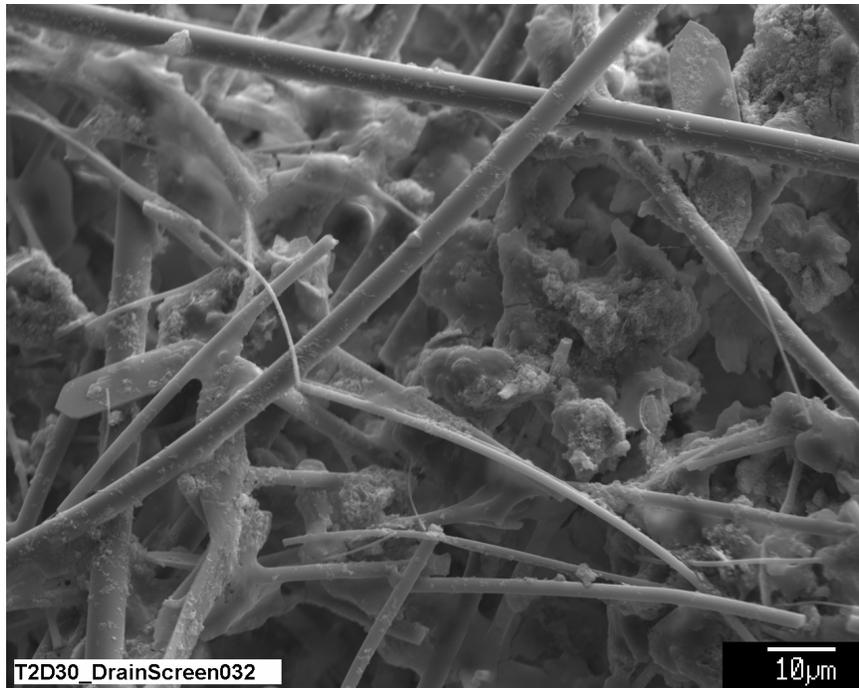
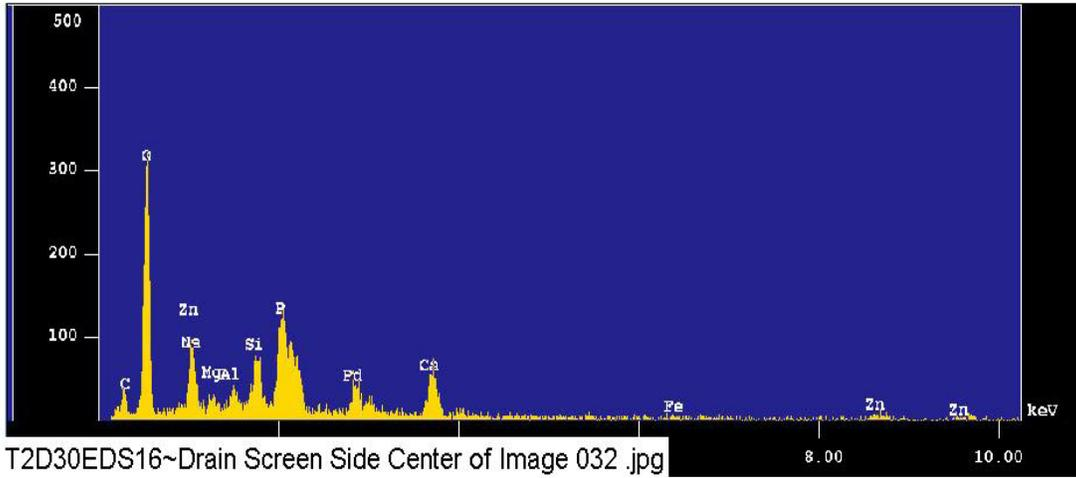

Figure D3-4. SEM image at 1000× magnification for a Test-2 Day-30 fiberglass sample on the drain collar next to the drain screen (T2D30_DrainScreen032).
Figure D3-5. EDS counting spectrum for the center of the image shown in Figure D3-4 (T2D30EDS16~Drain Screen Side Center of Image 032).
- Figure D3-4. SEM image at 1000× magnification for a Test-2 Day-30 fiberglass sample on the drain collar next to the drain screen (T2D30_DrainScreen032). D3-6
- Figure D3-5. EDS counting spectrum for the center of the image shown in Figure D3-4 (T2D30EDS16~Drain Screen Side Center of Image 032). D3-7
- Figure D3-6. EDS counting spectrum for the film between fibers shown in Figure D3-4. The film is rich in Si, O, Al, Na, and Ca (T2D30EDS17~Drain Screen Side Film on Fiber Glass). D3-9
Table D3-1. The Chemical Composition for T2D30EDS16 (Figure D3-5)	D3-8
Table D3-1. The Chemical Composition for T2D30EDS16 (Figure D3-5)
Figure D3-6. EDS counting spectrum for the film between fibers shown in Figure D3-4. The film is rich in Si, O, Al, Na, and Ca (T2D30EDS17~Drain Screen Side Film on Fiber Glass).